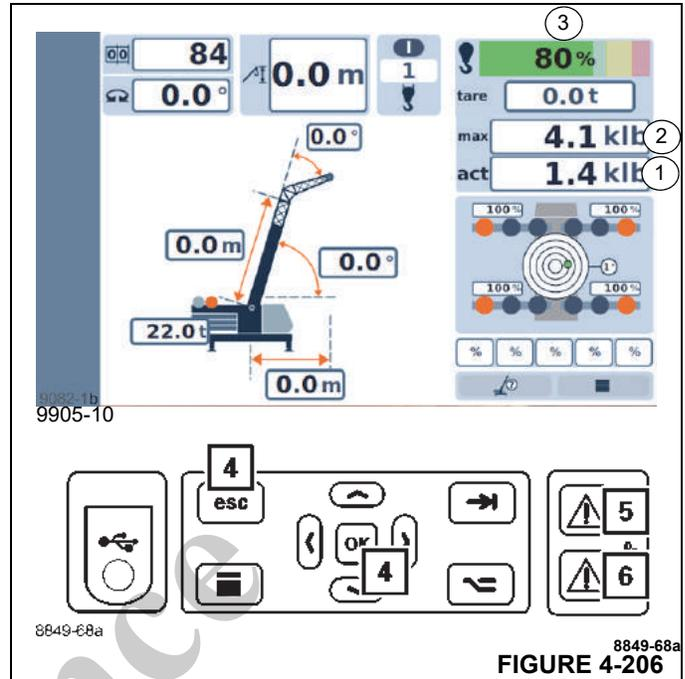

FIGURE 4-206
- After five seconds, you can switch off the buzzer tone using button (4, Figure 4-206).
- Lamp (6) will illuminate.
- Display (3) shows the current degree of utilization, e.g. 100%; the bar is red.
- The value on display (1) is equal to or greater than the value on display (2).